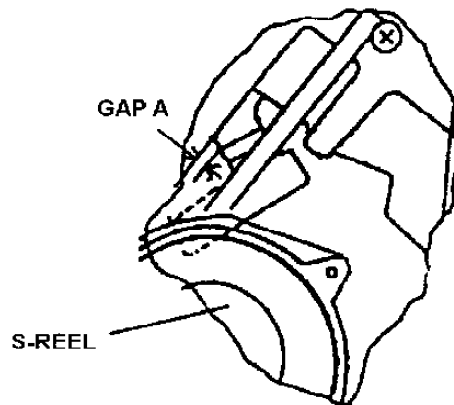

Fig.6-18-2 M-Stopper Solenoid Position Adjustment
3. Observe the clearance (A) between Mech Chassis and M-Stopper as shown in **Figure 6-18-2**. And make sure that it is within 1.1 to 1.3mm.
4. If not, loosen the 2 screws (A), which fixed M-Stopper Solenoid. And adjust the position of M-Stopper Solenoid so that the clearance (A) is within specification. And tighten the 2 screws (A).